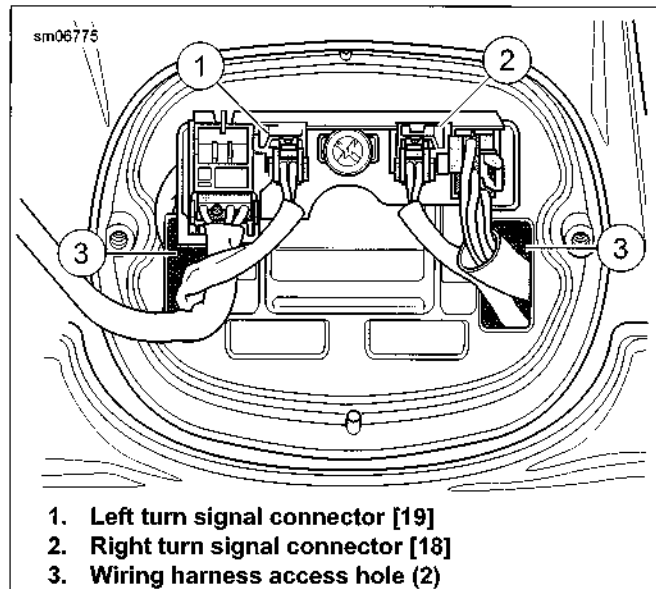

Figure 6-68. Turn Signal Connectors: XL 883L/R
4. See Figure 6-68. Remove left and right turn signal connectors (1, 2). Pull turn signal wiring harnesses through harness access holes (3) in tail lamp base.